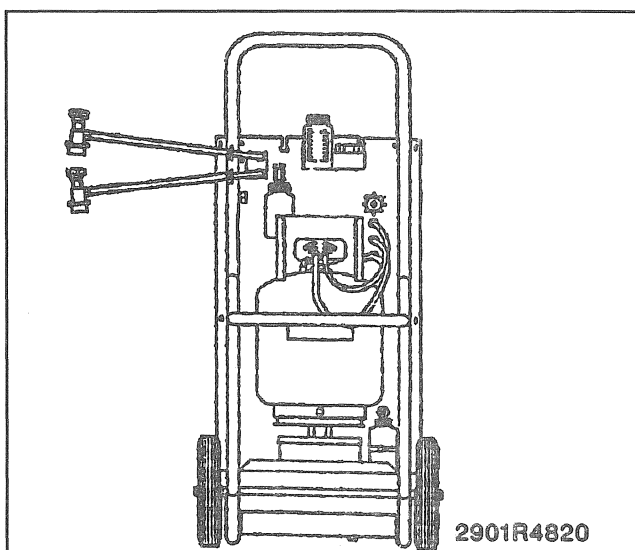

Figure 16—Complete Operational Set-Up
1. Connect high side (Red) and low side (Blue) hoses to the ACR4 unit (Figure 16). Make sure to route hoses through hose reel bracket grommets.